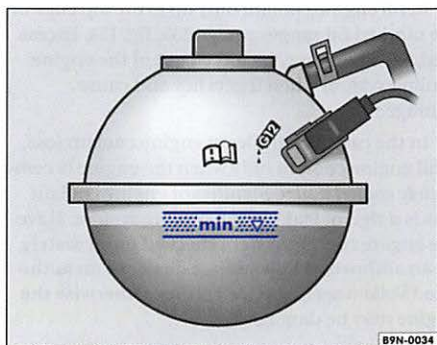

Fig. 154 Coolant expansion tank in the engine compartment.
- When the engine is cold, check the engine coolant level relative to the marking on the side of the expansion tank ⇒ **fig. 154**.
- Add only new engine coolant according to Volkswagen specifications (⇒ page 254) ⇒ ①.
- The engine coolant level must be inside the marks on the side of the reservoir ⇒ **fig. 154**. Do not fill above the top edge of the filling range! ⇒ ①
- Refill engine coolant only up to the top edge of the marked fill range ⇒ page 255, fig. 154. Excess engine coolant may be forced out of the engine cooling system when it gets hot and cause damage.